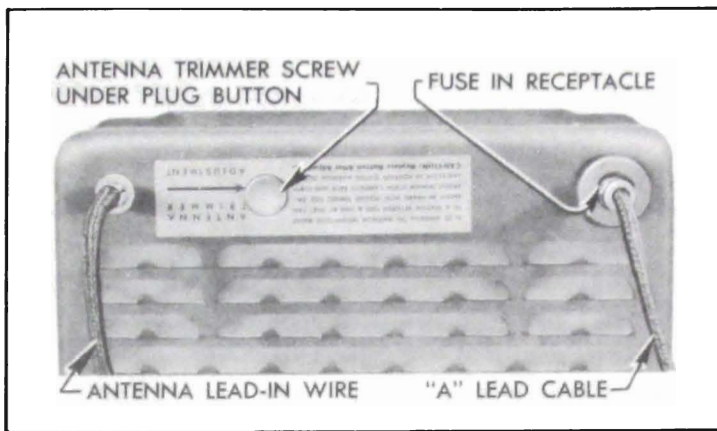

Figure 11-1—Antenna Trimmer Screw Location—Series 50-70
Make sure that the antenna trimmer screw plug button is installed in receiver cover. See figure 11-1.
3. Pry out of receiver the plug button labeled "Antenna Trimmer Adjustment". See figure 11-1.
8. Connect the "A" lead cable to one of the No. 1 (unprotected) terminals of lighting switch. *Never connect to any other terminal.* Install 15 ampere fuse in receptacle in receiver and connect lead to receiver. On *Series 40*, the "A" lead connects to receiver socket toward right side of car. On *Series 50-70*, it connects to socket toward left side of car. See figure 11-1.